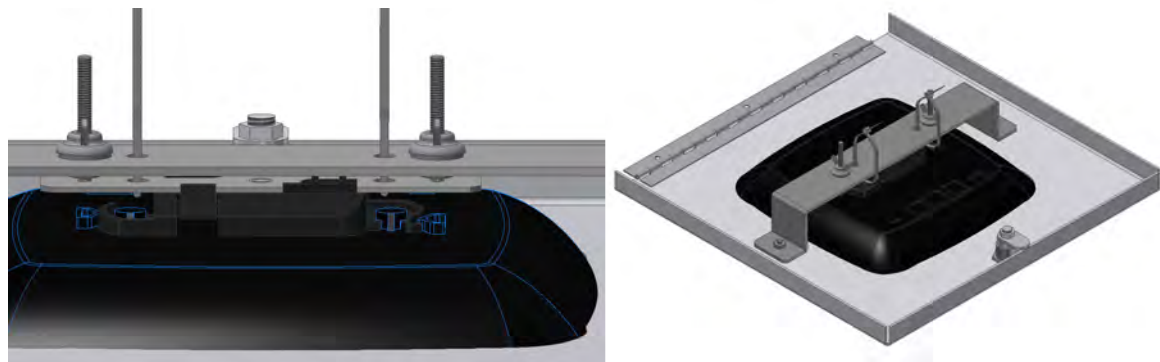

Figure 6
Step 6 – For added security, attach wire ties to the two inner holes of the bracket and the t-bar mount. Make sure to securely fasten the wire ties in place (Ref. Figure 6).